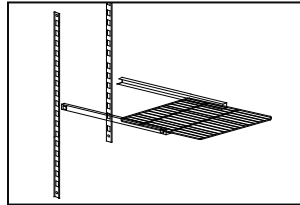

Figure 2
- Place the self-support inside the refrigerator, in the most suitable position for use, inserting each support in to the holes on the base of the refrigerator and inserting the side tab in the appropriate place on the sides or on the table supports. (Fig. 2)
- Slide the shelf into the supports as shown in. (Fig. 2)